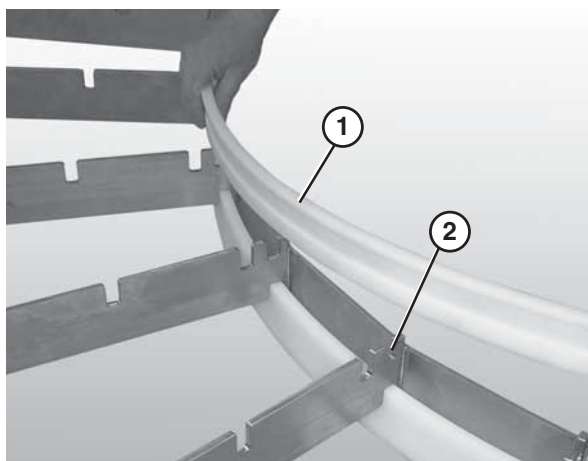

Figure 34
1. Insert the inside curve top wear strip (Figure 34, item 1) into the innermost slot (Figure 34, item 2) on the inside of the frame.